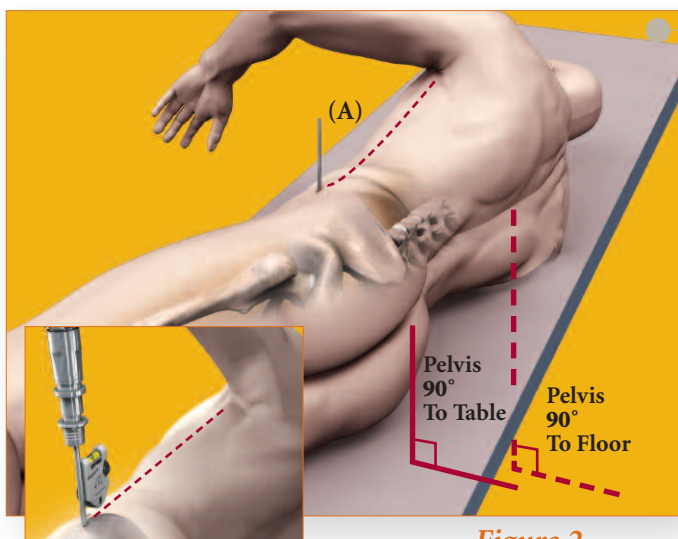

Figure 2
A small stab wound is made and the short threaded tip Steinmann pin (A) is drilled into the anterior aspect of the iliac crest as close to perpendicular in the coronal plane as possible (Figure 2). The pin should be positioned in a thick part of the iliac crest so that it will remain stable throughout the surgery.